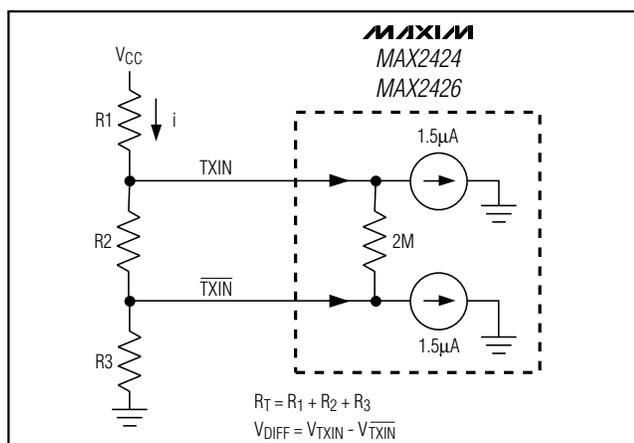

Figure 3. Biasing TXIN and $\overline{\text{TXIN}}$ for FM
Frequency modulation (FM) is realized by modulating the VCO tuning voltage. Apply the appropriate differential and common-mode voltages to TXIN and TXIN to control transmitter output power (Figure 3).